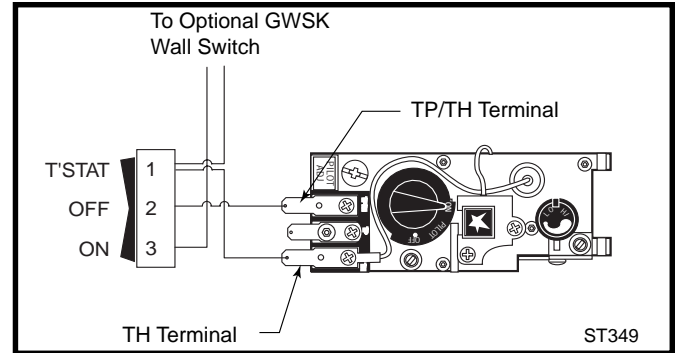

Fig. 12 Connecting wall switch to valve terminals.
- Connect the remaining ends of the optional switch to the valve at Terminal 3 and the tab connector on Terminal 1. (Fig. 12)